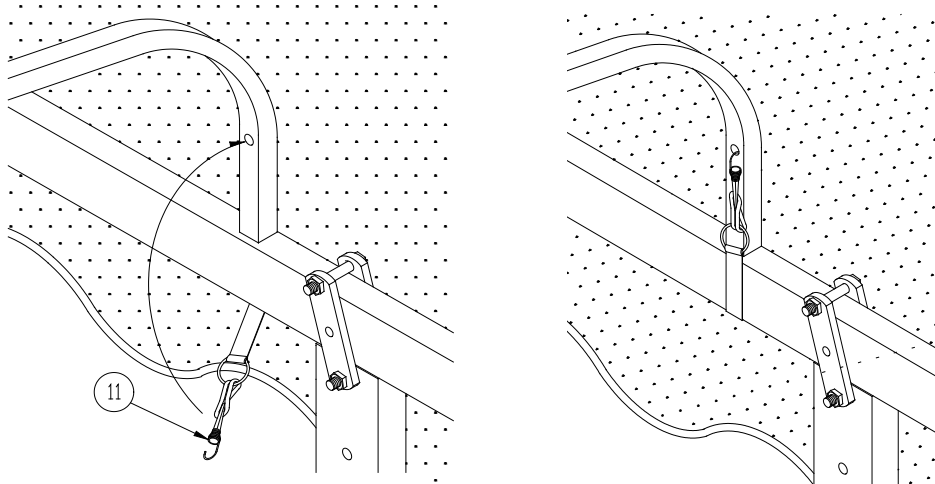

Figure 2-8.
15. Refer to **Figure 2-8**. Feed bungee cord through ring and thread hook end through loop to attach to ring, Wrap bungee cord under and around canopy frame. Attach hook end to hole in canopy rib as shown.